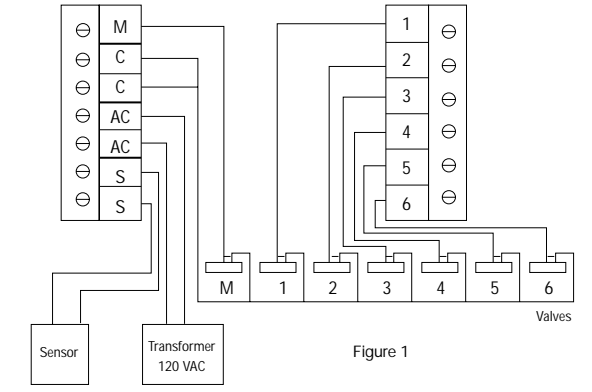

Figure 1
- Connect valves common wire to "C" (common) and individual valve wire to appropriate valve # on the controller terminal (see Figure 1).
An interrupt type rain sensor can be connected to the controller. The sensor connects directly to the controller sensor connection. Connect either wire from sensor to the two sensor terminals on the controller (see figure 1).